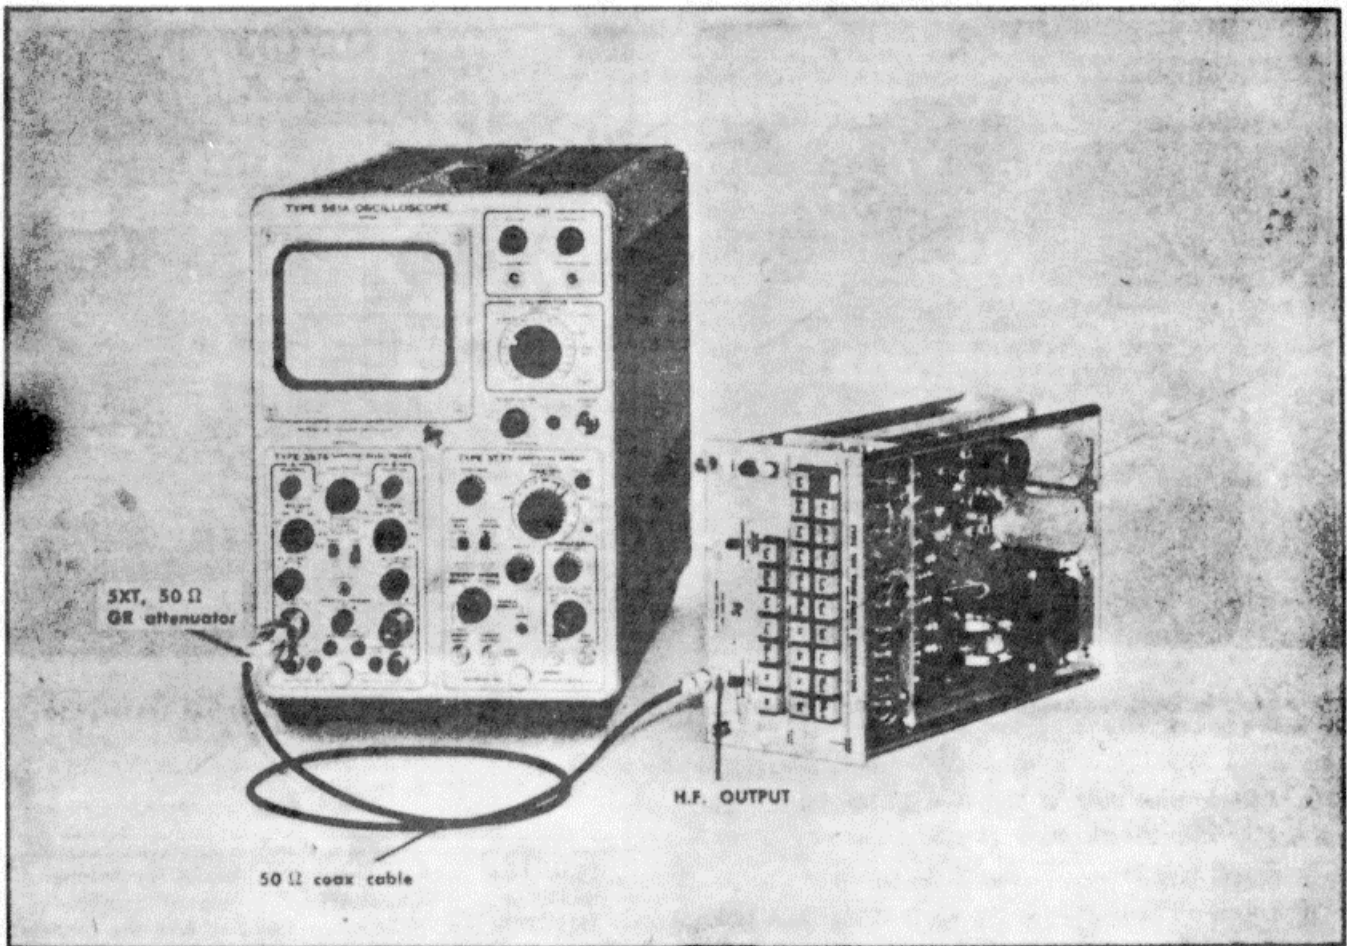

Fig. 6-20. Test equipment setup to check AND ADJUST 2NS AND 5NS SINE-WAVE MARKERS. Step 11.
- a. Test equipment setup is shown in Fig. 6-20.